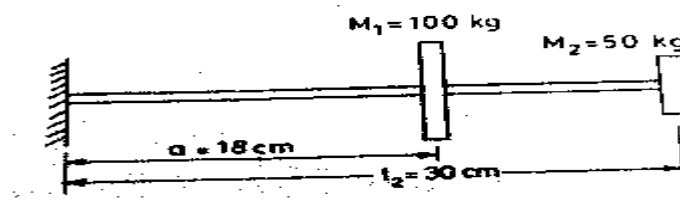

Figure.2
4. Find the lower natural frequency of vibration for the system shown in fig.2 by Dunkerley's Method. Take $E = 2 \times 10^{11} \text{ N/m}^2$ and $I = 4 \times 10^{-7} \text{ m}^4$